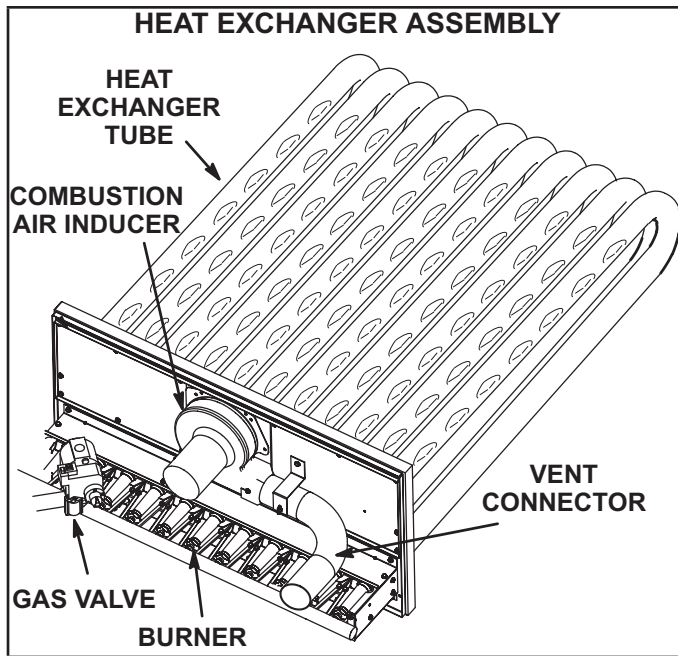

FIGURE 51
- 3 - Remove and retain screws securing combustion air inducer to flue box. Remove and retain two screws from bracket supporting vent connector. See FIGURE 51.